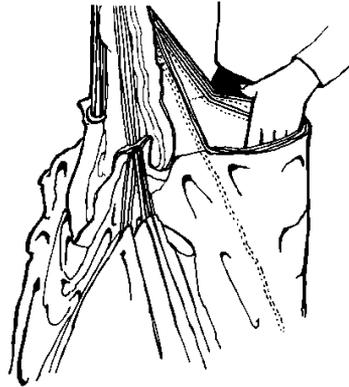

Figure 5.
Step 7.) Step out from between the line groups and hold them in one hand. Clear the bottom seams of each cell with the "knife edge" of the hand. (See Figure 5.) This must be done between the "A", "B", "B" & "C", and "C" & "D" line groups. Clear the seams of each cell to the left and right. After all the seams are cleared on each side of the canopy, clear the trailing edge between the control lines.